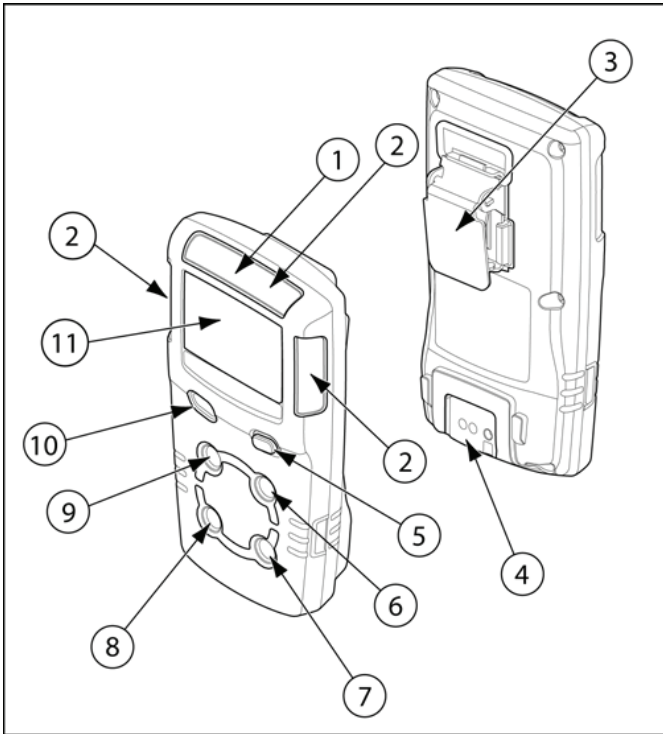

Figure 1. Parts of the GasAlertMicroClip
- Figure 1. and Table 3. describes the detector's components.